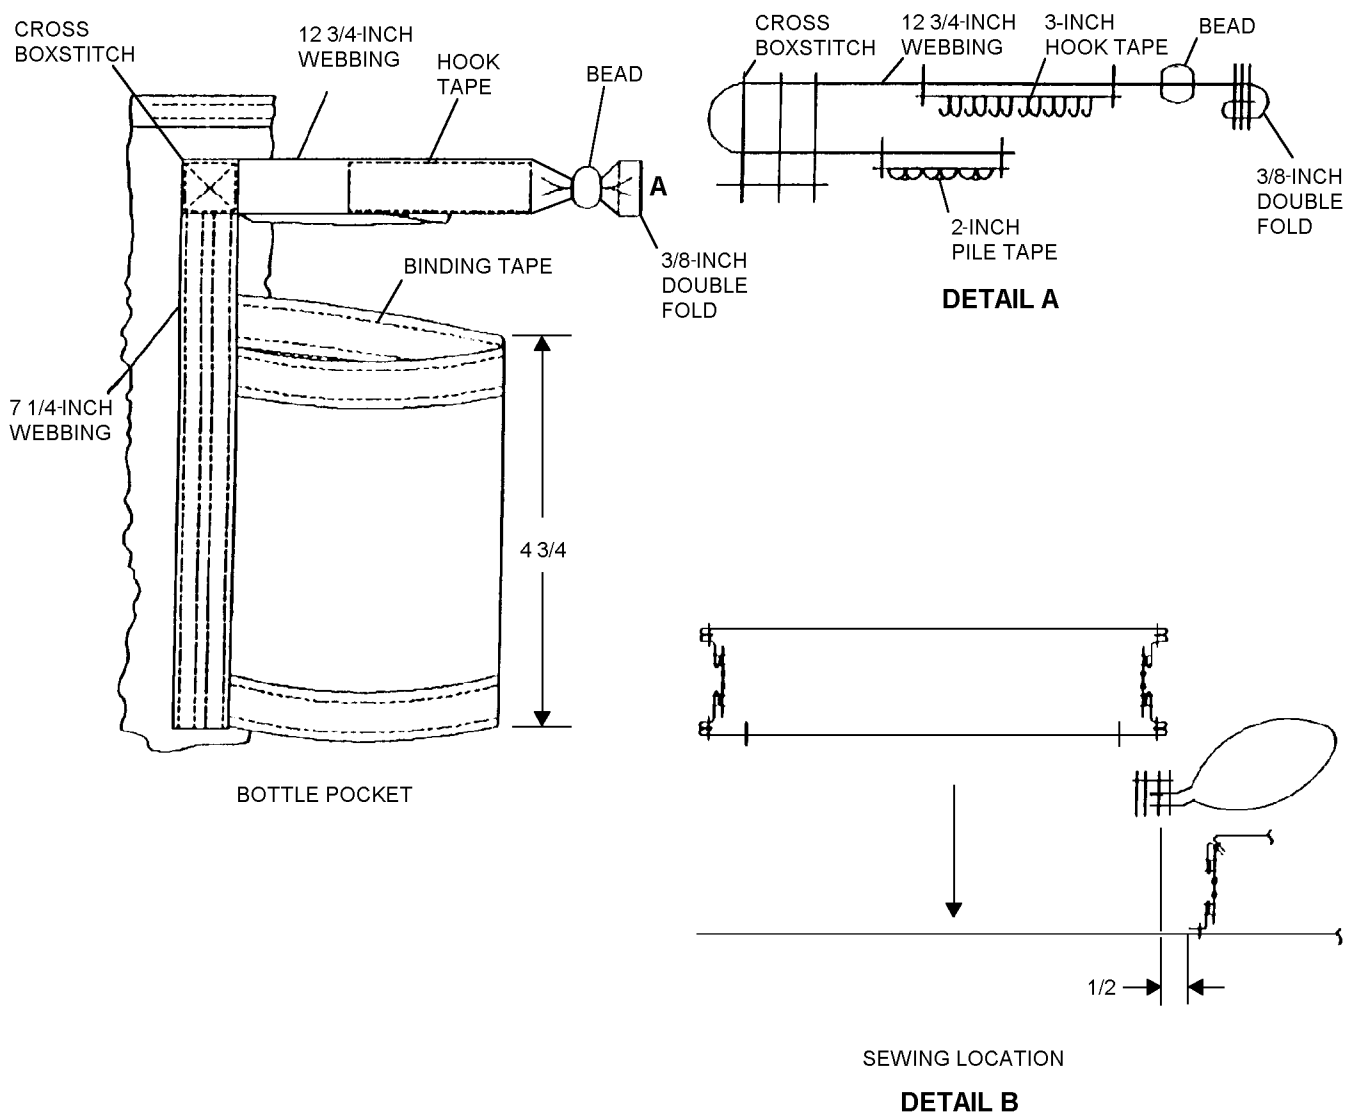

Figure 6-13. SRU-40/P HABD Bottle Pocket Assembly
6-30. Fabrication of Bottle Pocket. Refer to figure 6-13 and fabricate the bottle pocket as follows:
23. Sew the fold in place using three rows of stitches placed side by side (see figure 6-13, Detail A).
6-34. Attachment of the Bottle Pocket. Refer to figure 6-13, and proceed as follows:
is 3/8 inch below the top bound edge of the vest (see figure 6-13, Detail B).